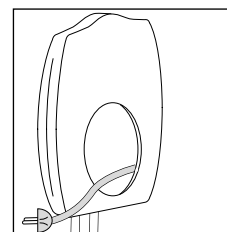

fig. 3
- Remove the length of cable required to connect the appliance to the mains, from the cable compartment (see Fig. 3).